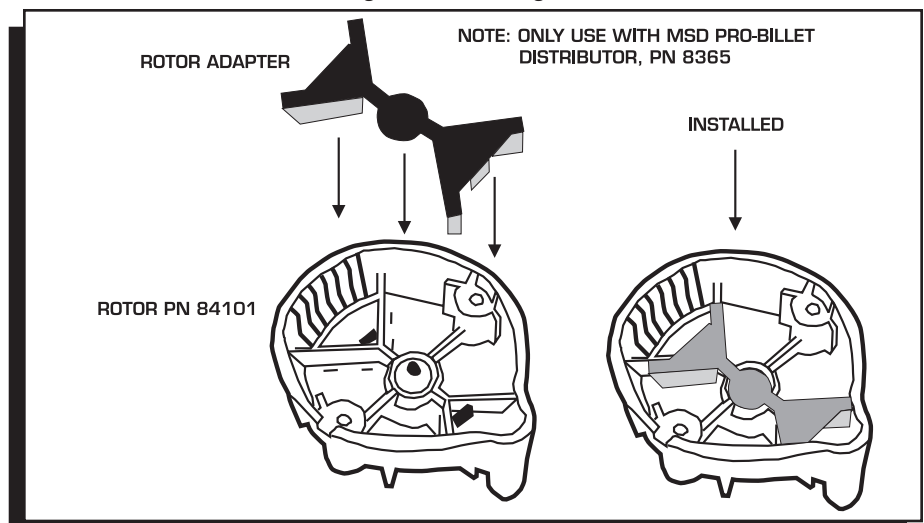

Figure 2 Installing the Rotor Adapter on an MSD PN 8365 HEI Distributor.
3. Install the rotor. If you are using an MSD HEI Pro-Billet Distributor, PN 8365, the supplied Rotor Adapter **must** be installed (Figure 2).